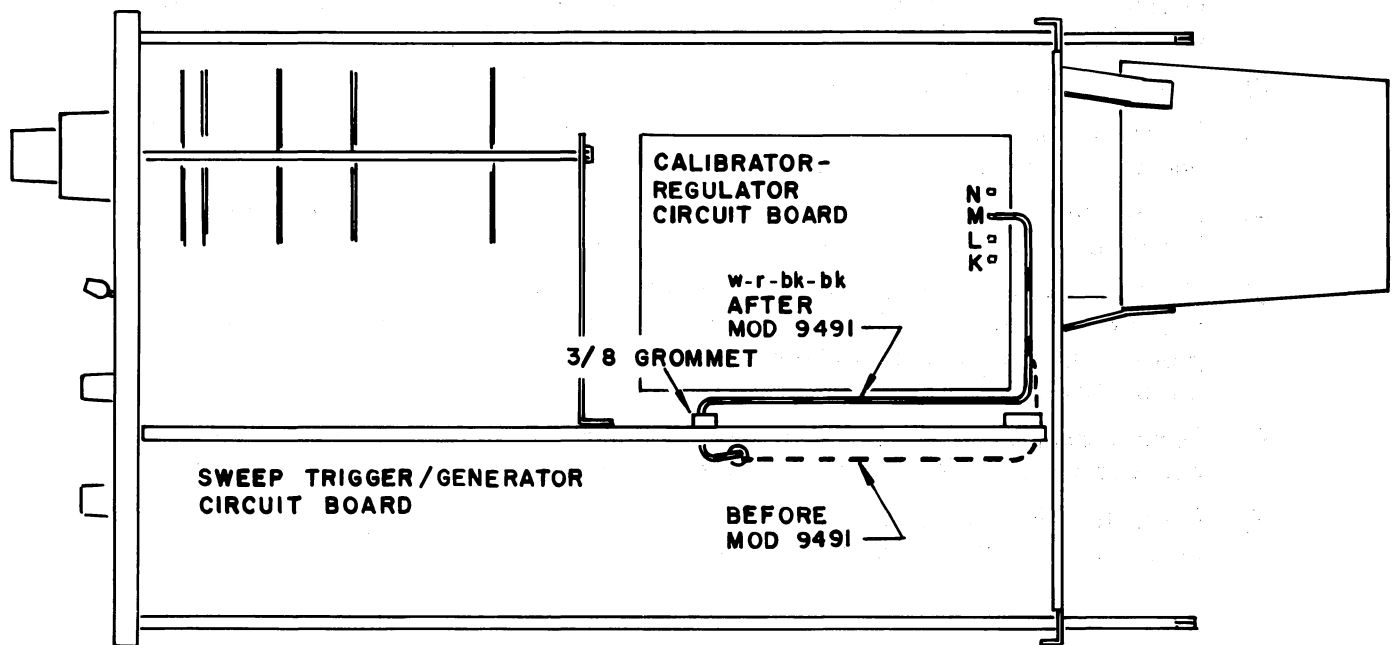

FIG. 2
- 5) Cut the connector off of the wire immediately behind the connector and remove the wire from its cable back to the point where the cable passes below a 3/8" grommet in the instrument chassis near pin Y of the Sweep Trigger/Generator circuit board. See Fig. 2.
- 7) Dress the wire through the 3/8" grommet and along the chassis as indicated in Fig. 2 and re-install the wire on pin M of the Calibrator-Regulator board.